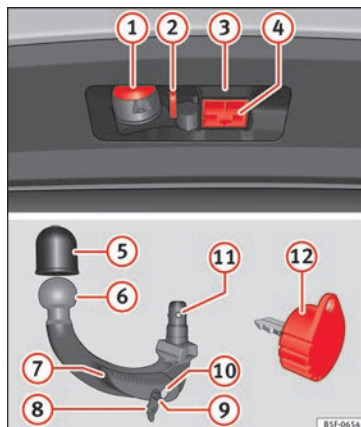

Fig. 208 Towing bracket device support / detachable ball joint / key.
Key to »» Fig. 208
- Remove the hook housing cap **(4)** » Fig. 208 downwards.